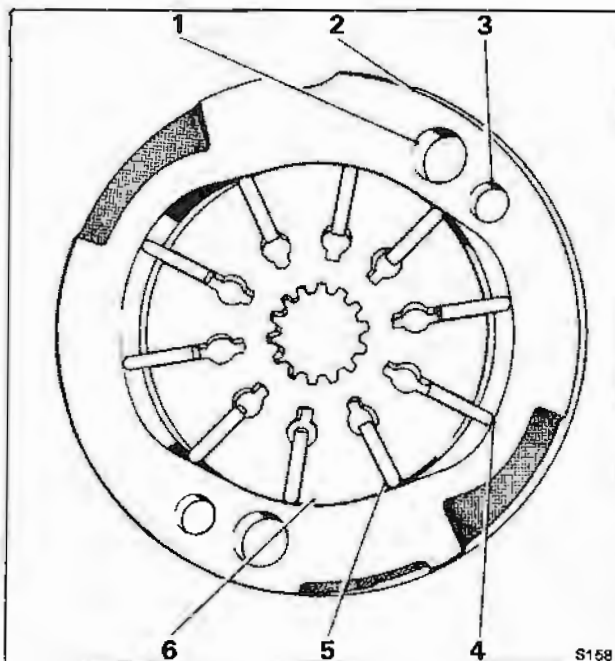

Fig. N3-6 Pump rotor and vanes
8. Fit the vanes into the rotor slots with the radiused edge facing outwards (see fig. N3-6).